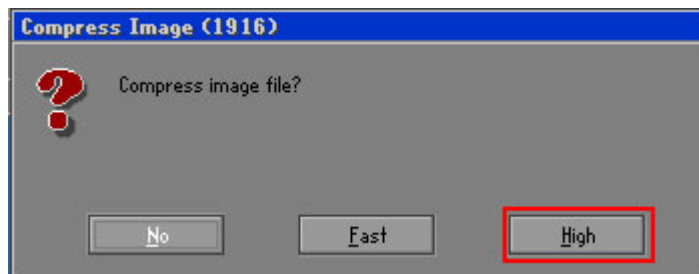

Figure A-17: Compress Image
Step 8: When the Compress Image screen in Figure A-17 prompts, click **High** to make the image file smaller.